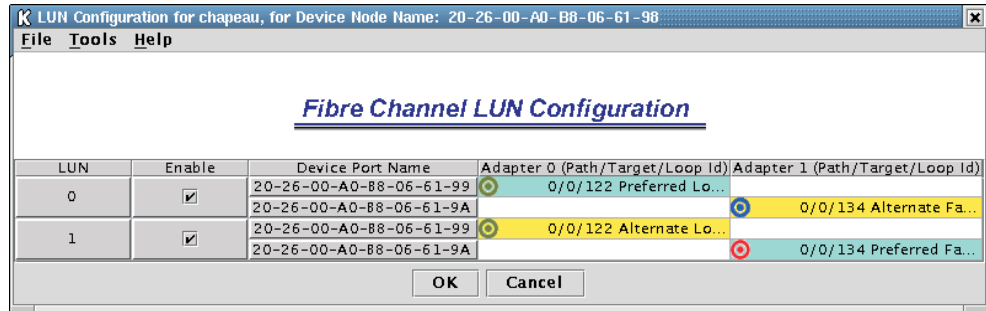

Figure 55. Preferred and alternate paths between adapters
- Your configuration should look similar to Figure 55 on page 109, which shows the preferred and alternate paths alternating between the adapters.